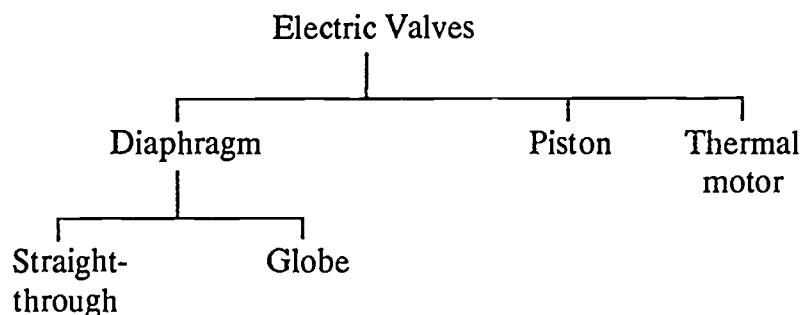

Figure 4-3. Types of Electrically Operated Valves
Figure 4-3 show the types of electrically operated automatic valves.
1. All electric valves are globe type.	False. (Figure 4-3)